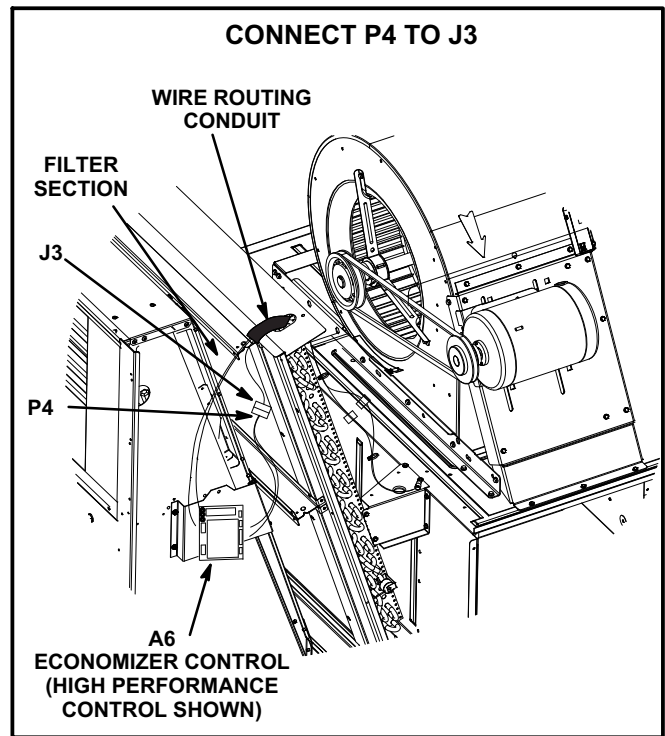

FIGURE 6
- 2- Install mixed air sensor, provided in kit, on indoor coil bracket. Secure with screw as shown in figure 6.
- 3- Locate the plastic conduit on top of the filter rack. Route the mixed air sensor wires through the conduit to the mixed air sensor. See figure 6.
- 4- Connect wires to terminals on mixed air sensor. See figures 6 and 8. Sensor is not polarity sensitive.
- 1- Locate 15-pin J3 economizer jack harness hanging on left side of filter compartment. See figure 6.
- 2- Disconnect P3 jumper plug from J3 and retain jumper plug for future troubleshooting. Connect 15-pin P4 economizer plug on A6 economizer control harness to J3 economizer jack. See figure 6.